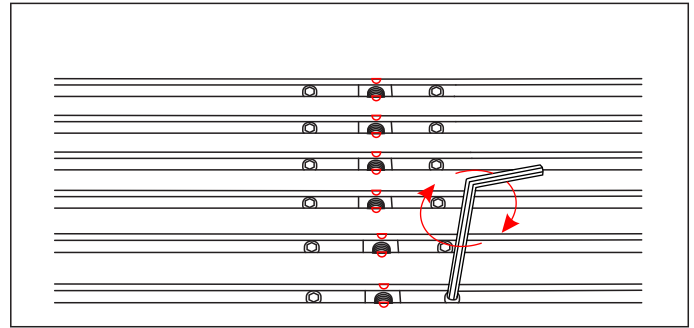

Fig. 17
5. Align the middle hole of the bases with the markings made on the profile and tighten the side screws to secure the base inside the profile. Don't secure the third base in the middle of the first and last profile (Fig.17).